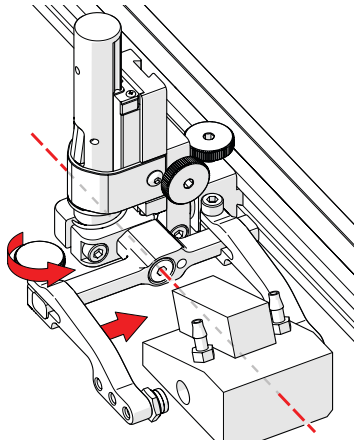

Fig. 56 - Adjust outer arm
5. Loosen the probe holder arm adjustment knob (Fig. 56) and slide the probe holder arm along the yoke pinching the wedge in place.